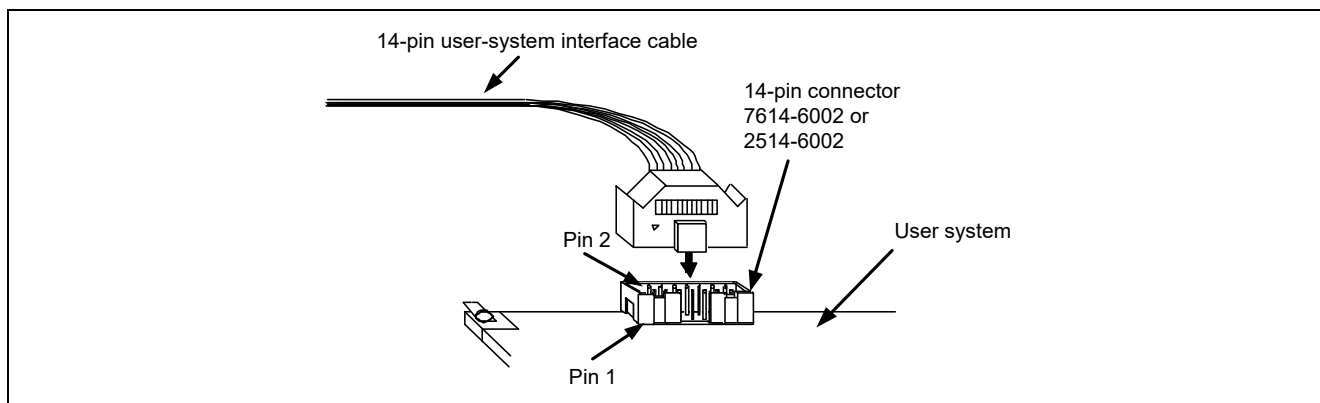
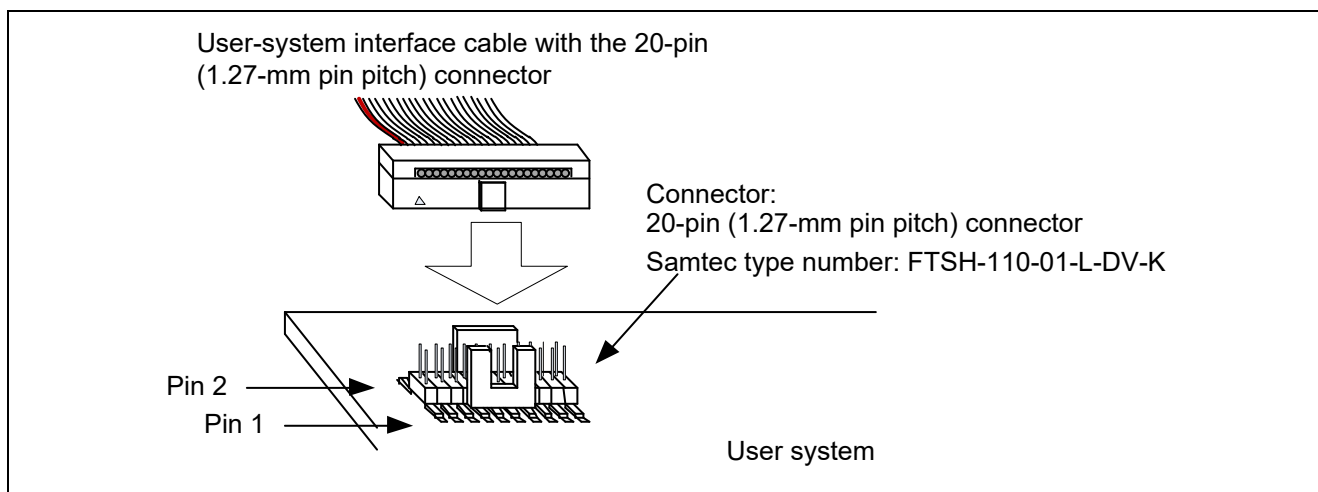

Figure 2.3 Connecting the User-System Interface Cable to the 14-Pin Connector when the E2 Lite is to be Used
Figure 2.4 Connecting the User-System Interface Cable to the 20-Pin Connector when the E2 Lite is to be Used
- (3) For the pin assignments of the connector, refer to the additional document for manual for the E1/E20 emulator or E2 emulator Lite which corresponds to the target MCU.
- (4) Connect one end of the user-system interface cable to the E2 Lite and the other end to the connector on the user system as shown in Figure 2.3 and Figure 2.4.